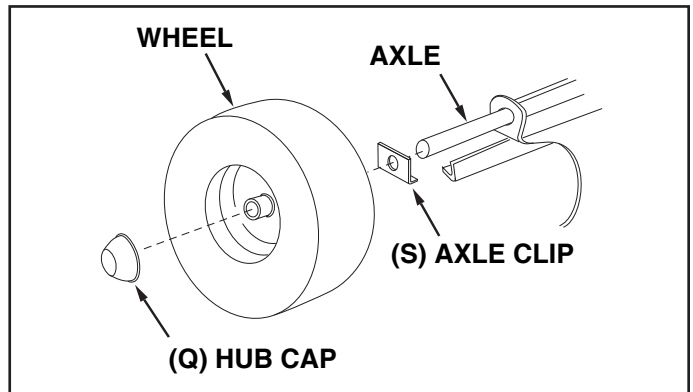

FIGURE 6
- Assemble an axle clip (S) and a wheel with the valve stem facing out onto the axle. Assemble a hub cap (Q) by pressing or tapping it onto the axle. Repeat on other end of axle. See figure 6.